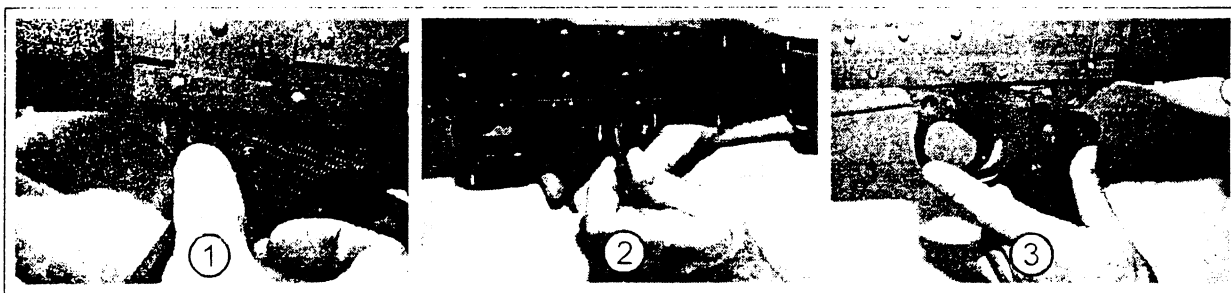

Fig 1-13. Removing the trigger housing group.
(2) **SECOND**, remove the trigger housing group (see fig 1-13).
- (a) Depress spring ①.
- (b) Remove spring pin ②.
- (c) Pull trigger housing group back and down ③.